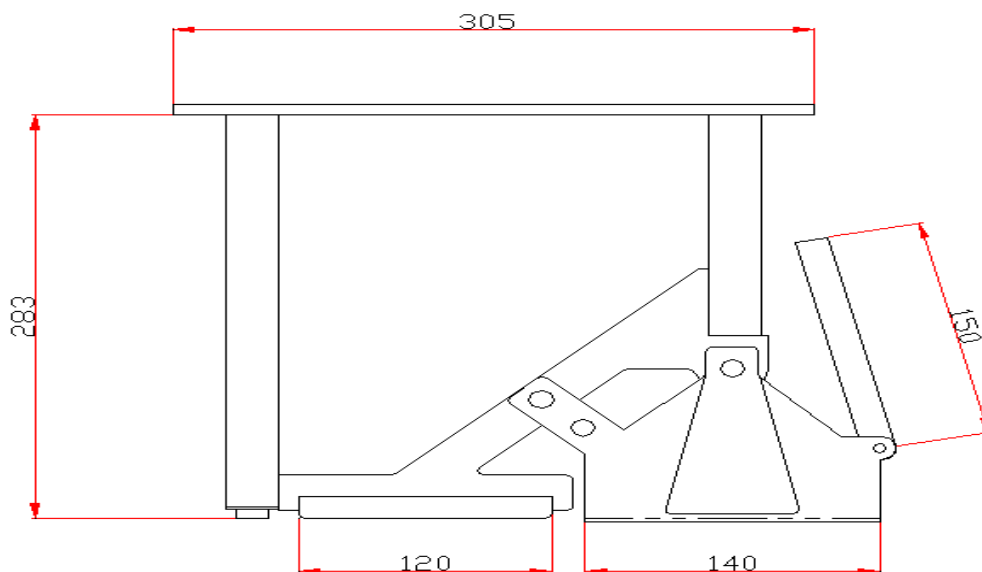

Figure 3 - A typical NMI Millenium Leg
7. In the case of a seat being attached to an NMI system, the seat must use the combination of the NMI track system, and the NMI Millenium Leg as shown in Figure 3.